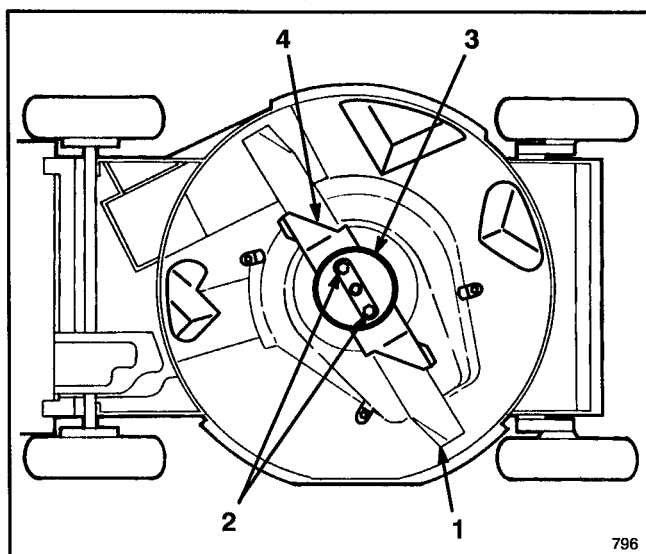

Figure 34
4. Remove (2) blade nuts, anti-scalp cup, accelerator, and blade (Fig. 34).